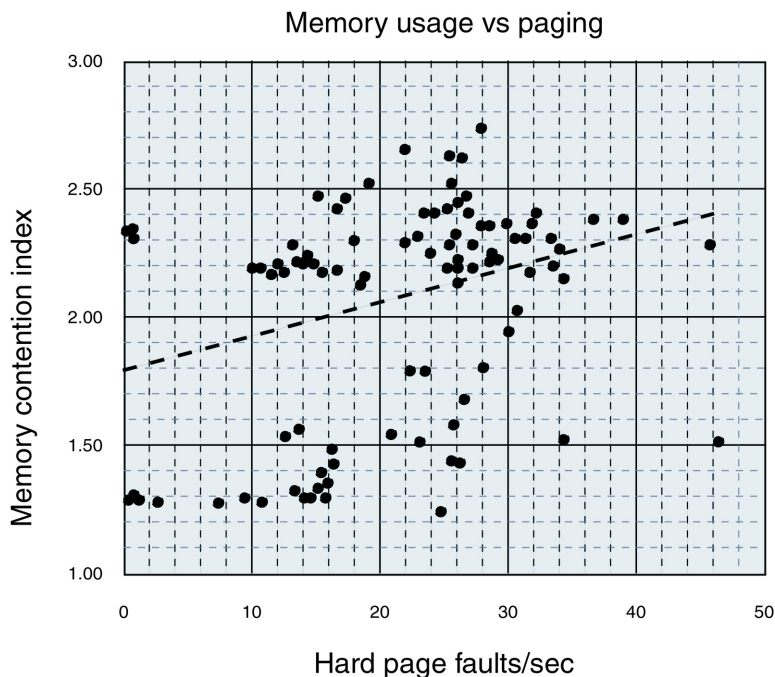

Figure 11.3 Example Memory Usage Index vs. Hard Page Faults Rate scatter diagram
An increase in the memory contention index is often accompanied by an increase in hard page faults. Combine the Performance Gallery Gold **Memory Utilization Index (NT)** graph and the **Hard Page Faults Rate (NT)** graph (see "Secondary Graph" on page 154) to see the relationship between the two performance indicators. The combined, dual-y-axes graph can be changed to a table (see "Chart Type" on page 114), then exported to MS Excel (see "Export" on page 86) and displayed as a scatter diagram (see Figure 11.3). The example scatter diagram includes a linear regression trend line to show the relationship between the two sets of measurements.